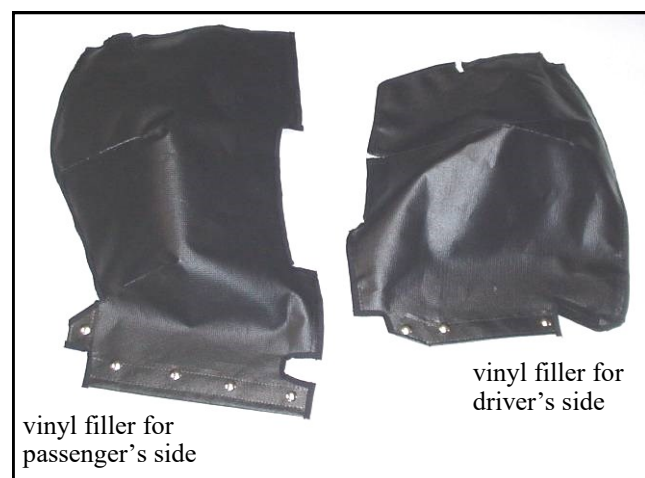

Fig. 17.1 (vinyl fillers)
17.1 Install the smaller of the two vinyl fillers on the driver's side. Attach the three snaps to the factory installed stud snaps on the rear of the fuel cap assembly. See figures 17.1 and 17.1a. Lay it out for best fit then apply the adhesive-backed hook velcro where necessary (i.e.: rear panel, inside surface of side frame tubing, etc.). Note: self-adhesive backed velcro should be applied to a clean, dry surface at room temperature.
17.2 Install the larger of the two vinyl fillers on the passenger's side. Attach the five snaps to the factory installed stud snaps on the air intake cover. See figures 17.1 and 17.2. Lay it out for best fit then apply the adhesive-backed hook velcro where necessary (i.e.: rear panel, inside surface of side frame tubing, etc.).